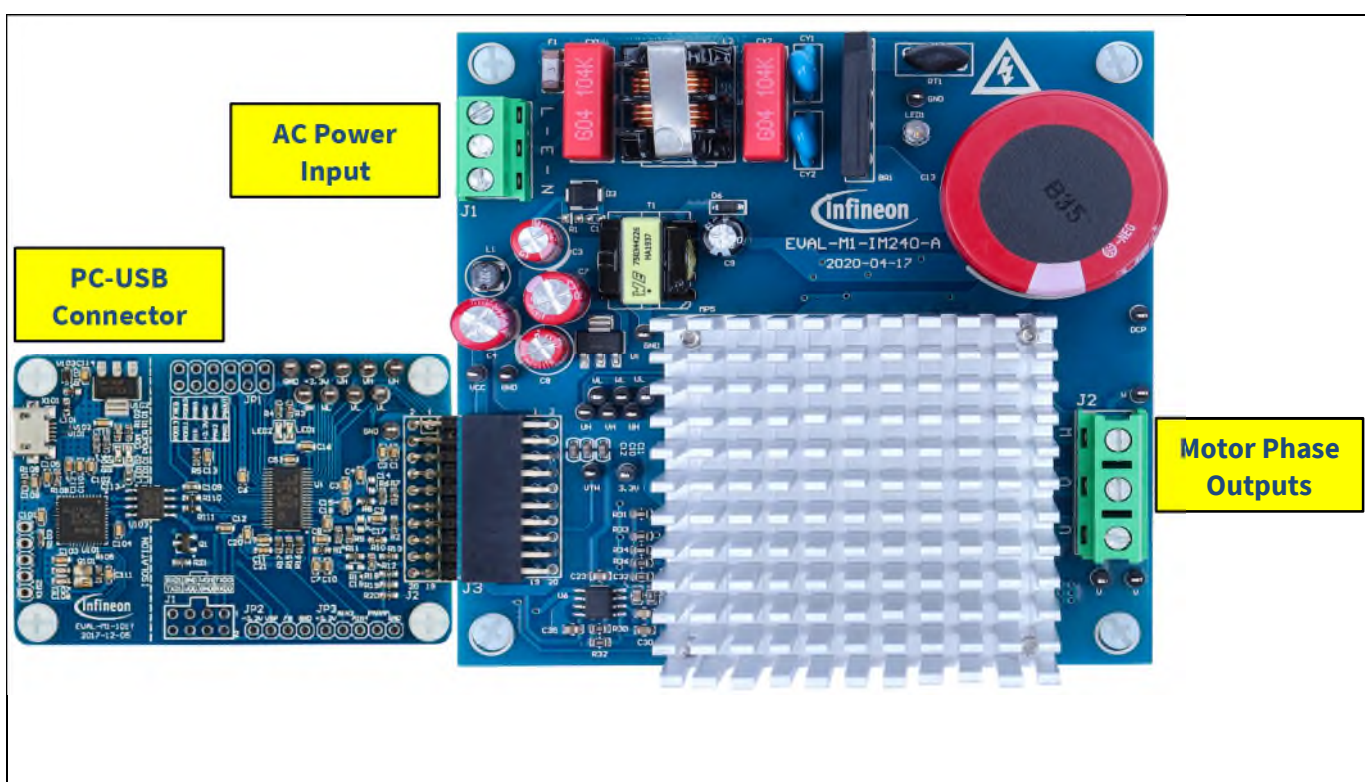

Figure 5 System connection example using EVAL-M1-101T and EVAL-M1-IM240-A
3. Connect EVAL-M1-101T’s M1 20-pin interface connector (J2) to power board (For example EVAL-M1-IM240-A, see Figure 5).